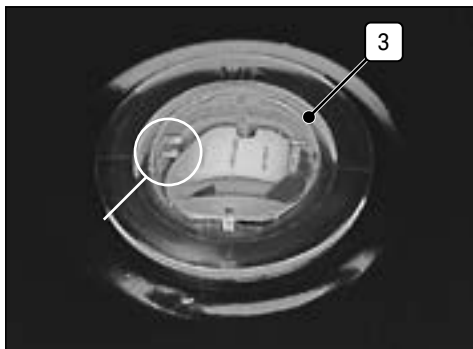

Fig. 2
7.2 Fuelling the Heater (Fig.2)